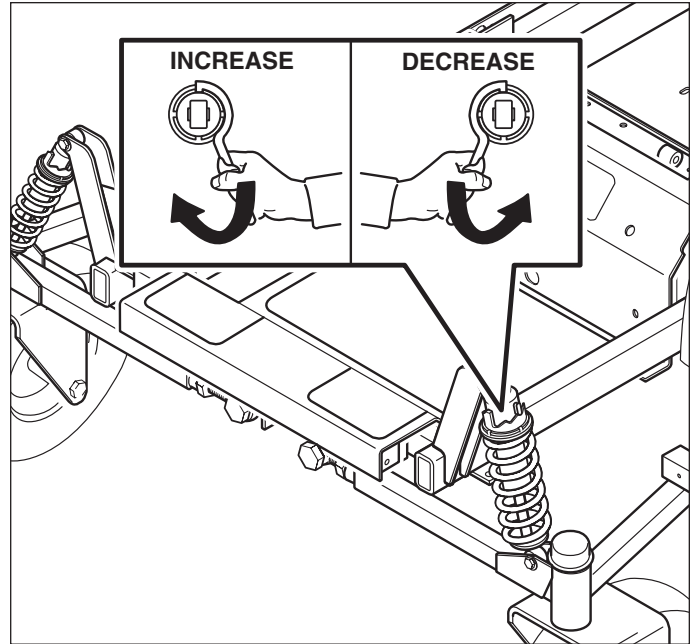

Figure 30. Front Suspension Adjustment
2. See Figure 30. Using the supplied spanner wrench (p/n 22853), insert the tip of the wrench into the notch in the pre-load adjuster. While holding the wrench in place with one hand, turn **CLOCKWISE** to increase the pre-load, turn **COUNTER-CLOCKWISE** to decrease the pre-load. Make sure both shocks are set to the same amount of pre-load.